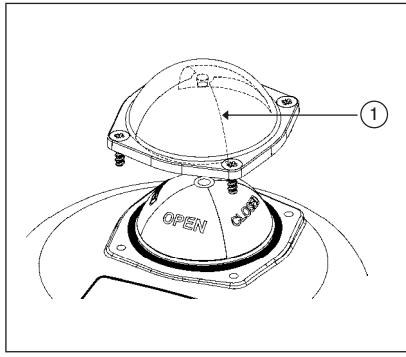

Figure 9: Removing glass hood
- Remove glass hood of the position indicator 1 including the sealing ring by loosening the four fastening screws and remove the glass hood (see "Figure 9").